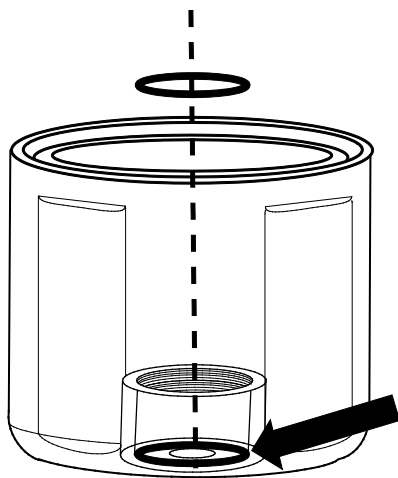
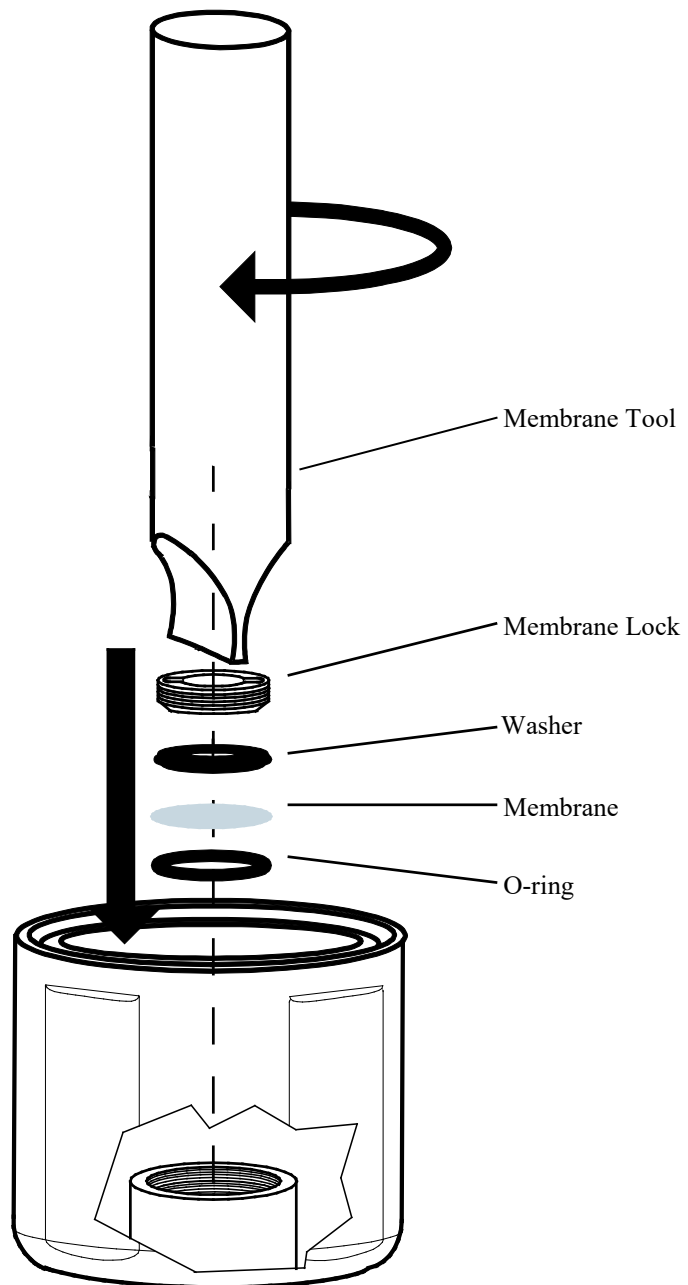

FIGURE 8-4. Proper O-ring placement
FIGURE 8-5. Installing membrane
6. Replace the membrane and its O-ring by first placing the new O-ring at the bottom of the membrane cavity (see FIGURE 8-4). Remove the paper backing from a new membrane and place the new membrane on top of the O-ring, and place the washer on top of the membrane. Using the membrane tool, install the membrane lock on top of the washer as shown in FIGURE 8-5. Make sure the cap is upright (not sideways) when securing the membrane lock to the washer.